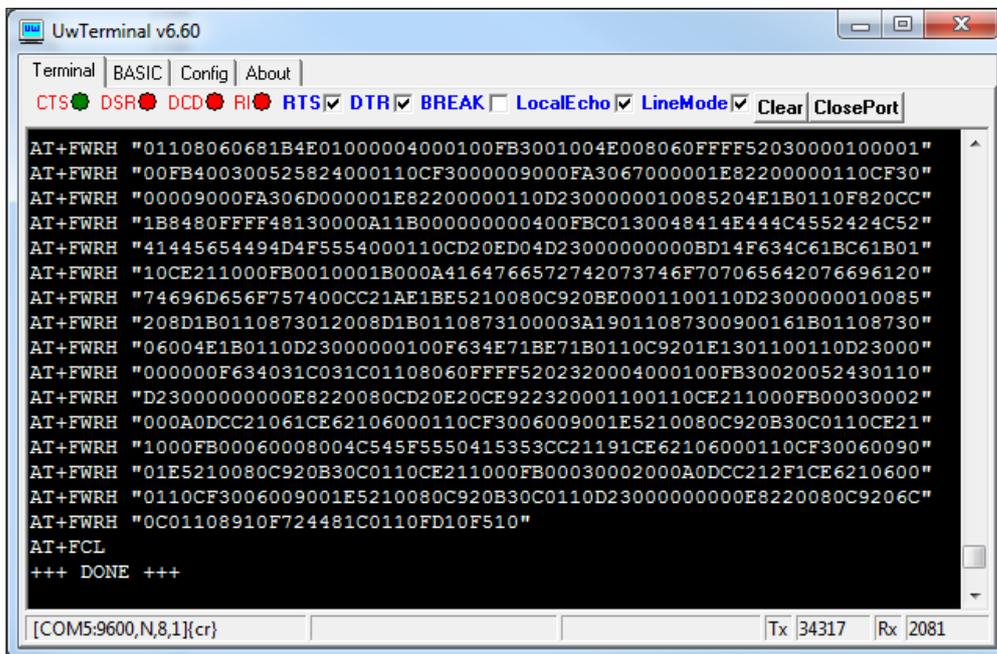

Figure 6: Compiled and loaded
3. Locate and open the **upass.vsp.sb** application located in the supplied *smart*BASIC *\_sample\_Apps* folder. When the application is successfully compiled and loaded, the console displays **+++ DONE +++** (Figure 6).